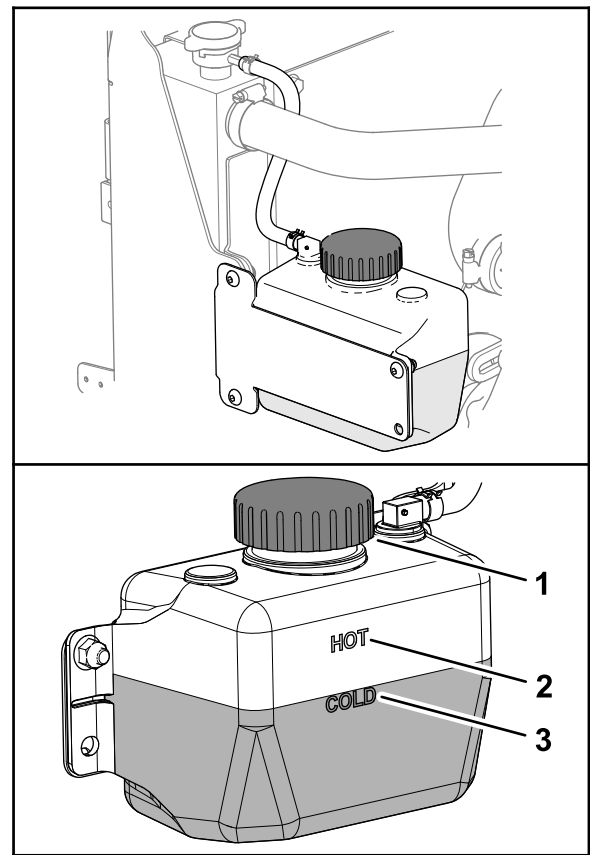

Figure 135
3. Check the level of coolant in the reservoir (Figure 135).